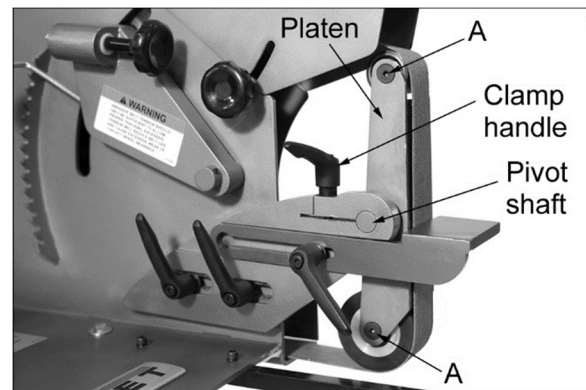

Figure 7-1: installing platen assembly
3. Loosen clamp handle on head casting. See Figure 7-1.
4. Install pivot shaft of platen (or shaft of wheel) all the way into head casting, as shown in Figure 7-1.